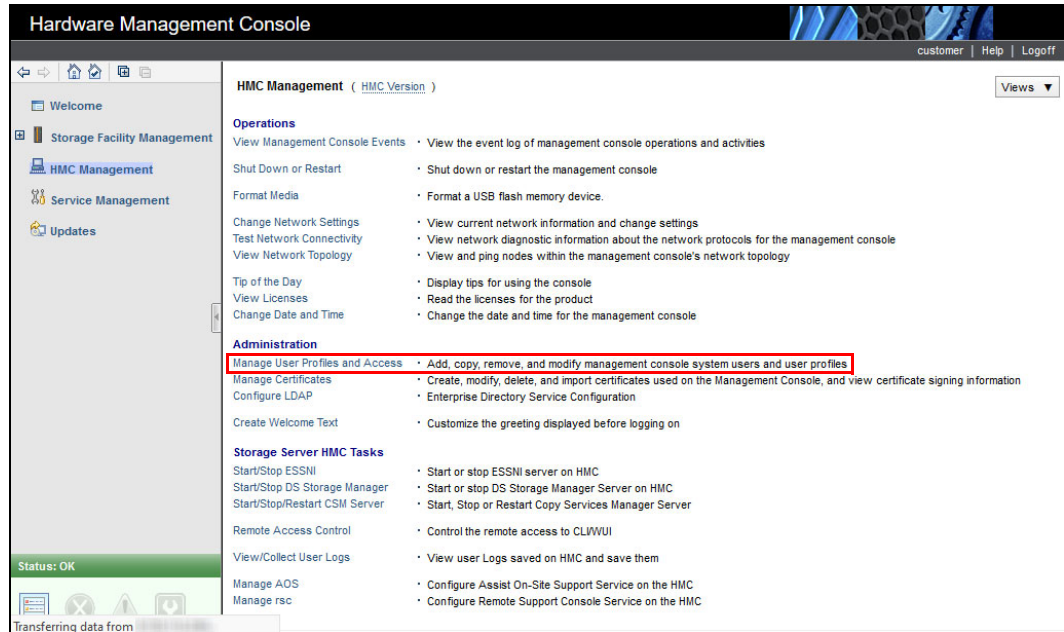

Figure 6-16 Manage User Profiles and Access
2. In the HMC Management window, select **Manage User Profiles and Access**, as shown in Figure 6-16 on page 182.